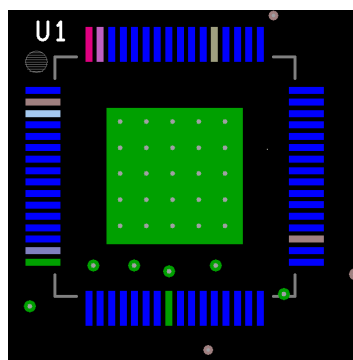
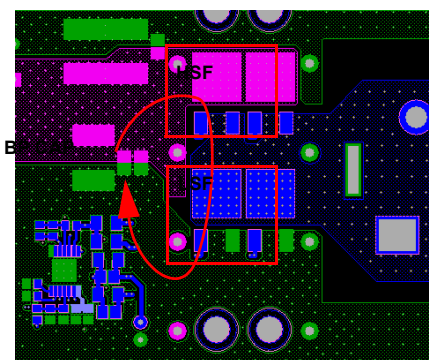

Figure 141. Recommended Layout Pattern for Vias on the IC Bottom Pad
Figure 143. Recommended Layout Pattern for Phase Node
- (1) Place input ceramic capacitors as close as possible to the VIN and AGND/PGND pins of the IC.
- (2) Place high quality ceramic bypass capacitors as close as possible to the power MOSFET stack from BAT48 to GND, see Figure 143. Keep this loop (ceramic bypass capacitors and MOSFET stack) as small as possible for each phase to reduce voltage spikes induced by the trace parasitic inductances when the MOSFETs are switching ON and OFF.
- (3) Place aluminum electrolytic capacitors across BAT48 close to the power MOSFET stack as well.
- (4) Keep the phase node copper area small in order to minimize capacitive coupling, but large enough to handle the load current and heat sinking requirements.
- (5) Place aluminum electrolytic and some ceramic capacitors close to the BAT12 side of the inductors and lower power MOSFET sources.
- (6) Place multiple vias under the thermal pad of the IC. Connect the thermal pad to the ground copper plane with as large an area as possible in multiple layers to effectively reduce the thermal impedance. Figure 141 shows the layout example for vias on the IC bottom pad.
- (7) Place a 10μF ceramic decoupling capacitor from the PVCC pin to GND as close as possible to the IC. Place multiple vias close to the ground pad of this capacitor.
- The most major example of an aggressor trace is the phase node(s). They carry both high switching current and voltage, and with fast transition rates. The major components of the phase node are two FETs and an inductor. Trapezoidal current flows alternately from each of the FETs to the inductor. The inductor current is a triangular combination of the two trapezoids. Consider two current loops, one when the high-side FET is on and the other when the low-side FET is on, see Figure 143. When the high-side FET is on, provide for a local source of current from a bypass capacitor. Connect this local input voltage source capacitor, the input side to the drain of the high-side FET, and the ground side to the source of the low-side FET. Minimize the impedance of this node to the ground side of the output capacitors by using a ground plane. The area of the phase node must be kept small to minimize capacitive coupling to other nodes, but large enough to dissipate heat from the power processing components. Do not route potential victim traces near any phase node.
- Place multiple vias under the thermal pad of the IC and connect them to all of the available ground planes. Each parallel via represents a thermal conductor and an electrical admittance. Use them liberally, see Figure 141 on page 142.